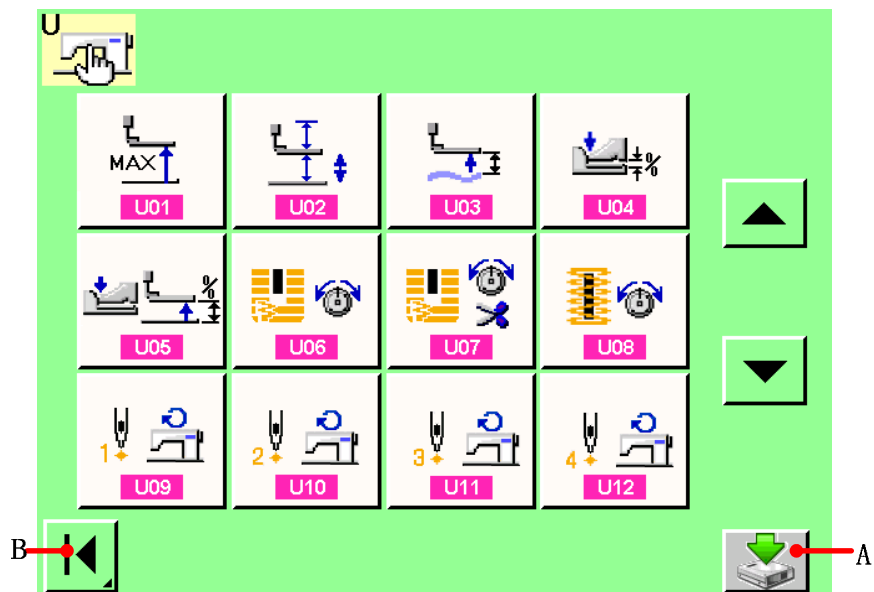

figure 6.2
- 2 Press button  and the <user parameter 1> screen is displayed. See figure 6.2.
4 Determine the presser type. Press button B to return the <user parameter 1> screen. If press button A in figure 6.2, the change has been finished. Otherwise, the change has been canceled.